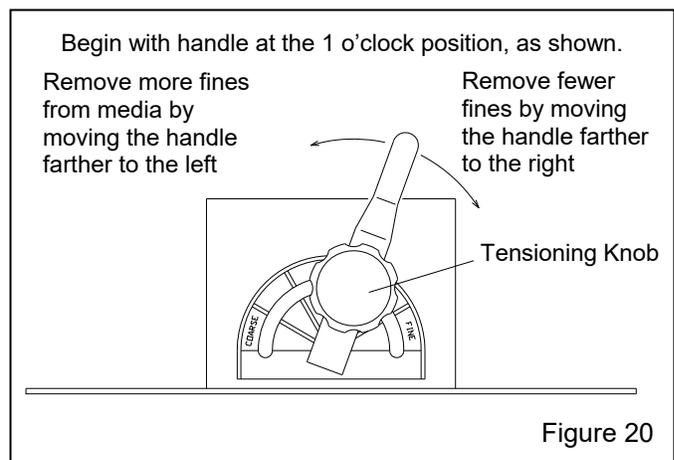

Figure 20
5.4.1 The vortex cylinder is located atop the reclaimer where the flex hose connects. Adjustments are made by loosening the handle’s tensioning knob and moving the handle to achieve the correct setting. When the correct setting is established, tighten the locking knob to prevent movement. Start with the lever slightly to the right (about 1 o’clock, as shown in Figure 20) of the vertical position.